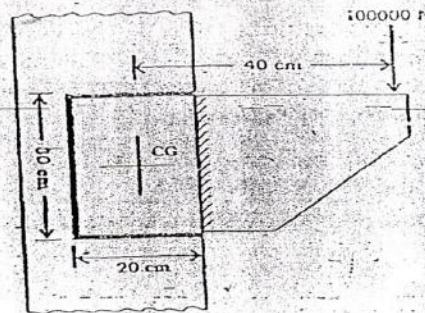

Fig. 5
- (b) Calculate the size of the weld required for the welded bracket loaded as shown in Fig. 5.